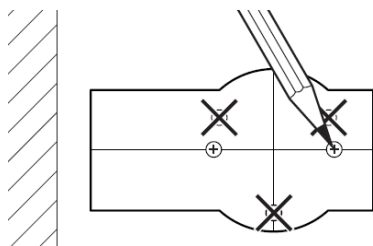

Figure 11:
4. Use a plumb line and the provided template to center the top pivot with the floor plate. Mark the holes locations of the floor plate with a pencil (Figure 11).